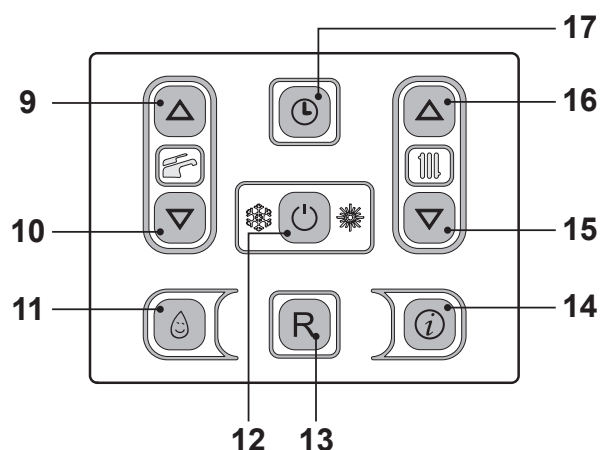
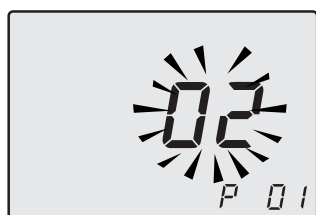

Fig. 8.3
Fig. 8.4
- Enter in "programming mode" by pressing keys 12 - 15 - 16 (Fig. 8.3) for 10 seconds at the same time until the letters **P01** are displayed on the LCD display, indicating that "parameter 01" (Fig. 8.4) has been activated.
- By pressing key 12 (Fig. 8.3) confirmation of the inserted value is obtained.
- Press keys 15 or 16 (Fig. 8.3) to exit without changing the value.